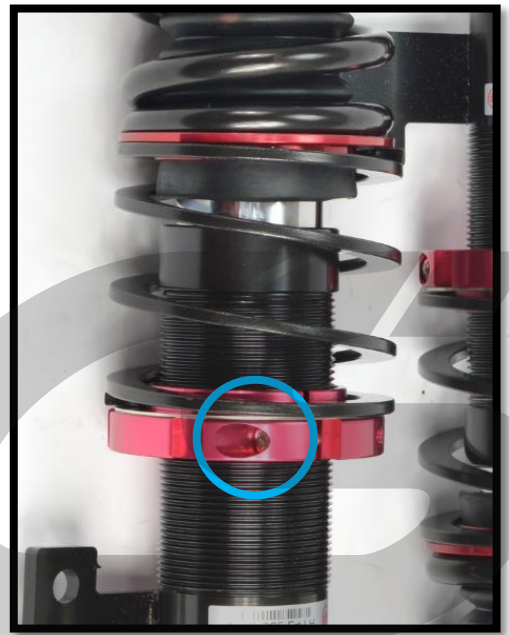

Figure 7a
- a) Starting with the front coilovers, begin by loosening the Allen bolt that locks the front lower spring perch. This can be loosened using a 5mm Allen wrench/socket. Bolt shown in **Figure 7a**.